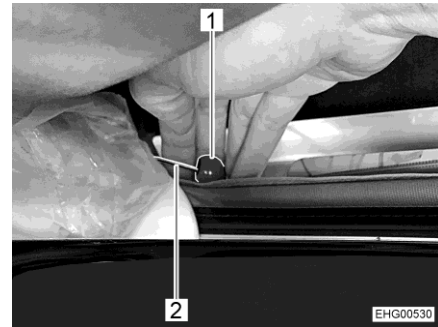

Fig. 71 Emergency release
- Pull the red button (Fig. 71,1) of the cable control (Fig. 71,2) on both sides.